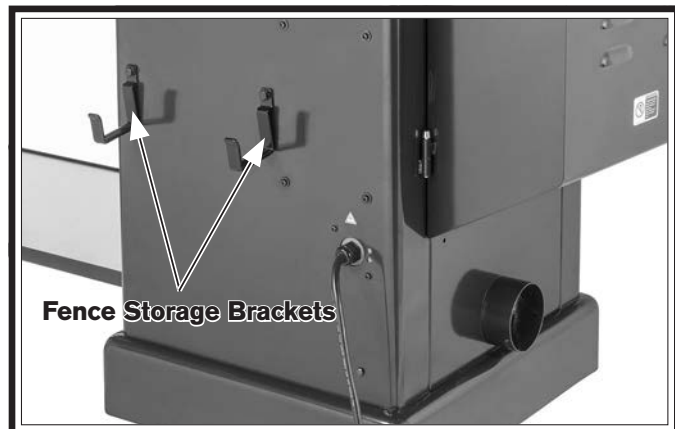

Figure 39. Fence storage brackets installed.
11. Install (2) fence storage brackets as shown in **Figure 39** onto back of cabinet with (2) M8-1.25 x 12 flange bolts.